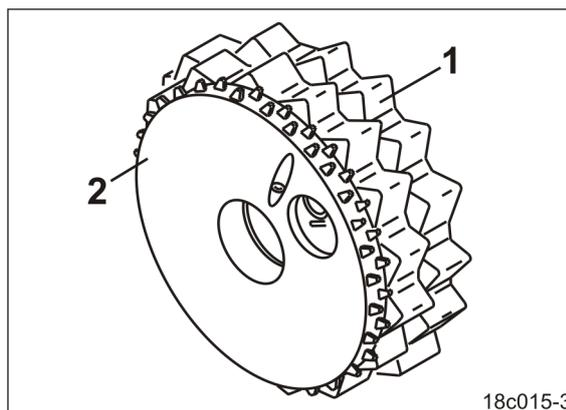

Fig. 40
- Normal seed metering wheel (Fig. 40/1) and
- Fine seed metering wheel (Fig. 40/2).